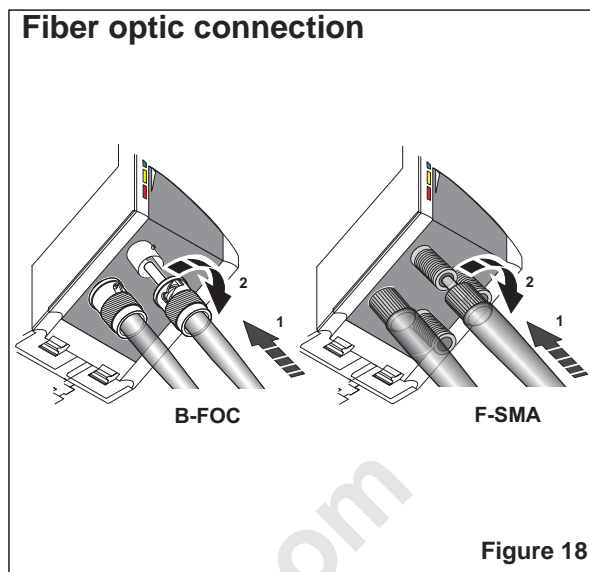

Figure 18
Connect the fiber optic cable to the B-FOC (ST) connector for the transmit and receive channel and push the connector clamp mechanism downwards. Secure the connection with a quarter turn to the right (Figure 18).